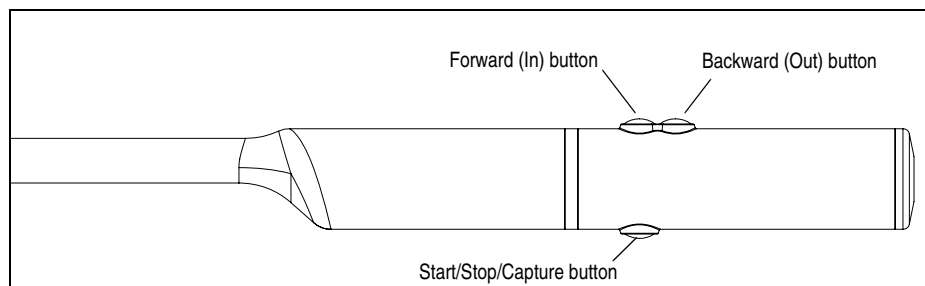

Figure 4. Transducer control buttons.
- Press one of the control buttons on the upper side of the transducer handle (see Fig 4) until the crystal is where you want it.